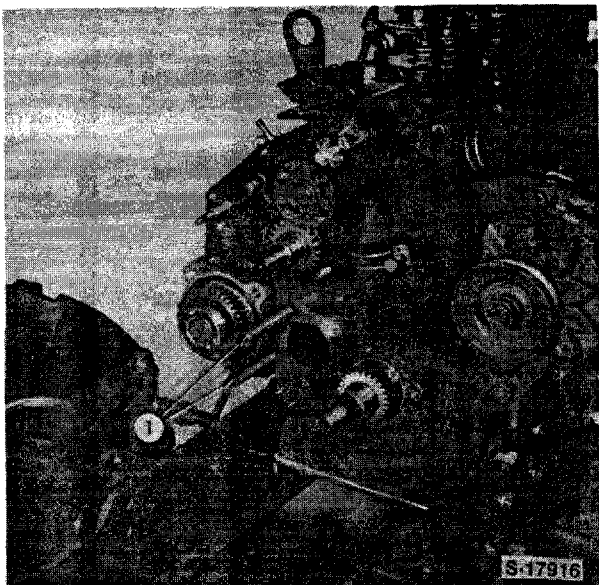

Figure 44
- Using a special tool insert the threaded guide pins (1) into the cylinder block, Figure 44. Assemble the oil pump shaft to the port block using nut and washer previously removed.